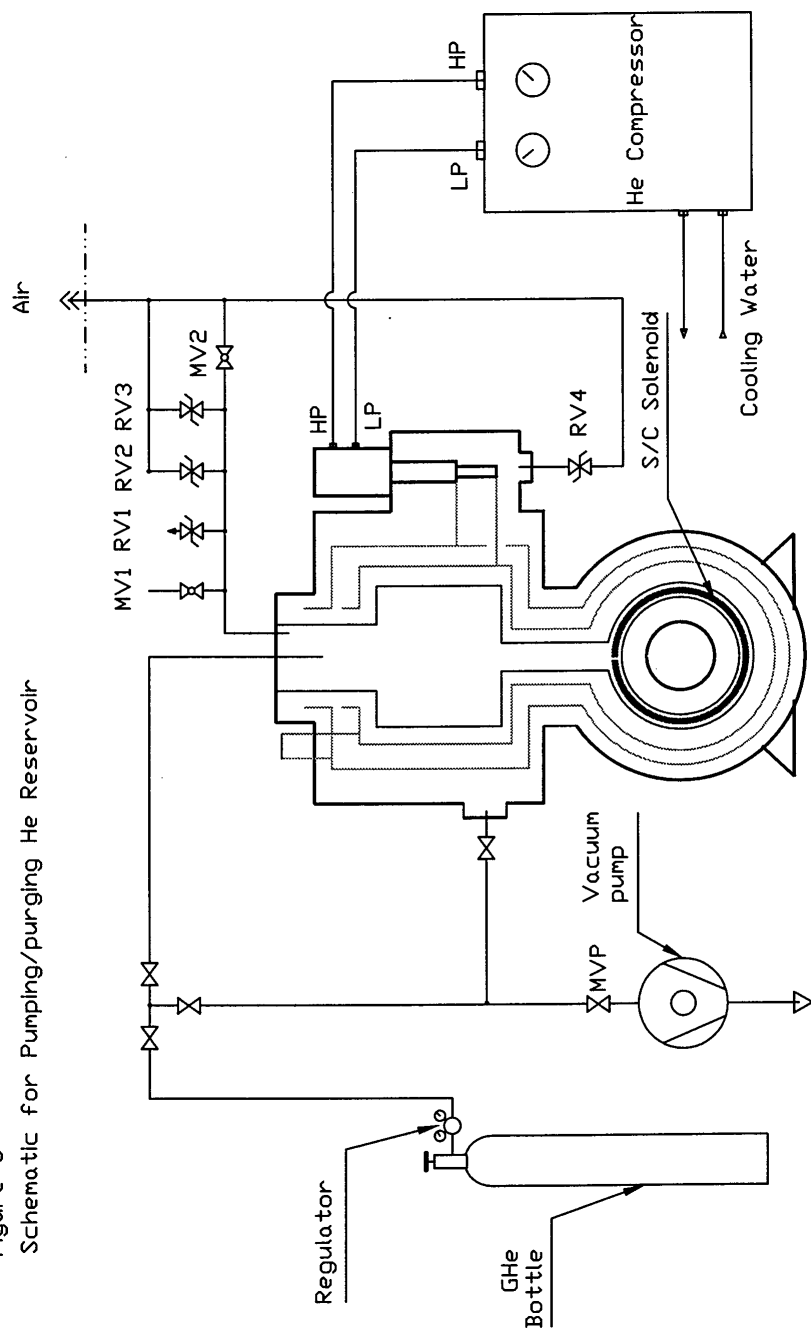

Figure 6
- 5.7.1 Connect LHe dewar to helium reservoir according to Fig. 6.
5.10.1 Connect LHe dewar to helium reservoir according to Fig. 6.
- 8.7 Figure 6. Schematic for transferring LHe to SC magnet.